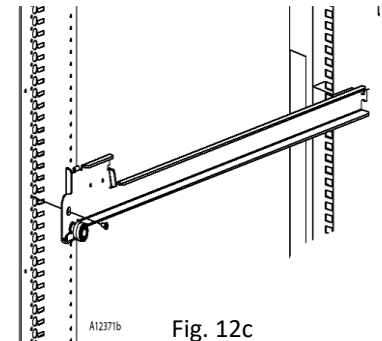

Fig. 12c
2. Fully pull out the tray, if a Channel Rail system tilt up at front and lift the 'release' ramp, then lift tray out of the rail. If a Flat Rail system lift the tray at front to release and lift the back of the tray out – Fig. 12c